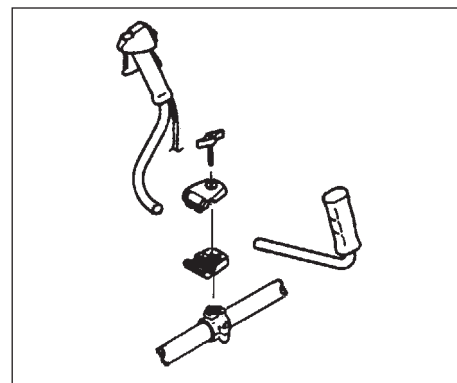

Fig. 1-2D
#### Installation handle for CG47EJ (T) (Fig. 1-2D, 1-2E)